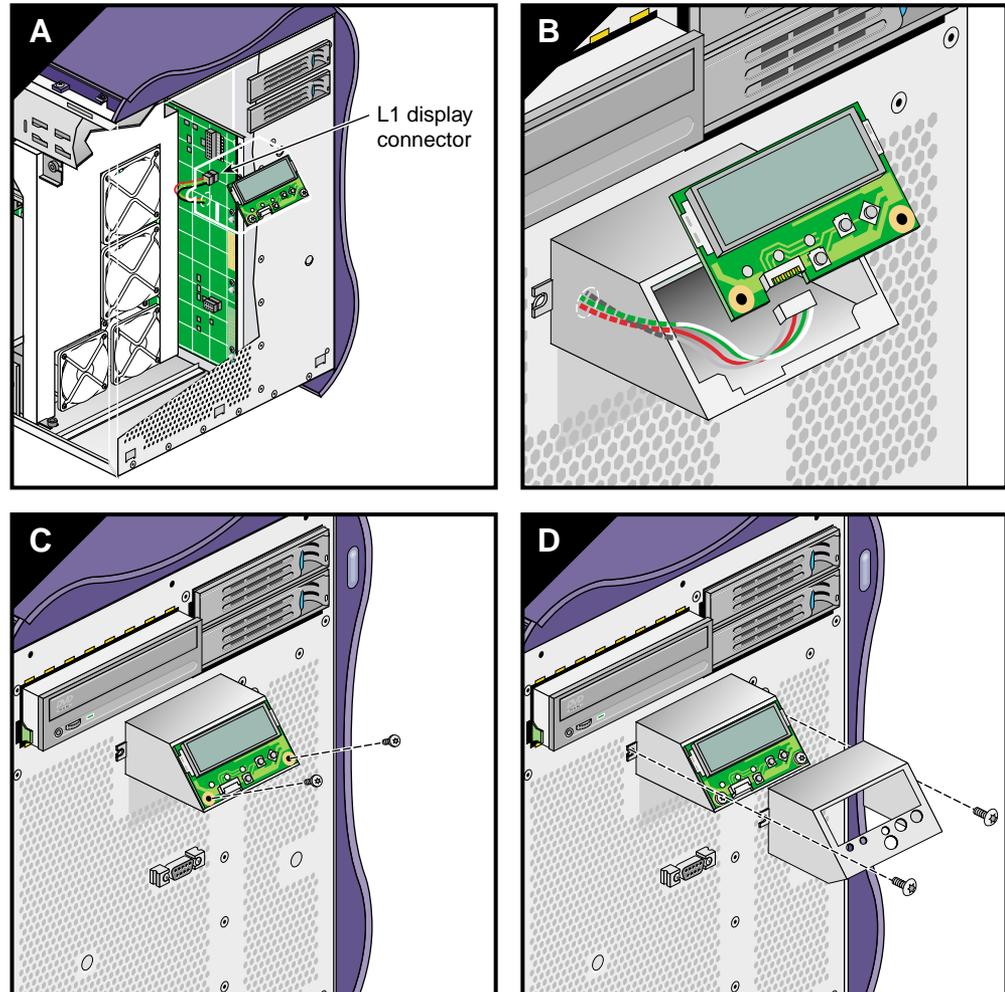

Figure 3-38 Installing the L1 Display Cable
8. Push the L1 display board connector of the replacement L1 display cable out through the hole in the front of the enclosure. Then seat the grommet in the hole (see Figure 3-38).
9. Connect the replacement L1 display cable to the interface board and the L1 display board (see Figure 3-38).
10. Install the two screws that secure the L1 display board to its bracket (see Figure 3-38).
11. Align the hooks on the bracket with the holes in the enclosure. Insert the hooks into the holes, and press down to seat the housing on the front of the enclosure (see Figure 3-38).
12. Slide the outer cover over the L1 display bracket. Then install the two screws that secure the L1 display bracket to the front of the enclosure (see Figure 3-38).